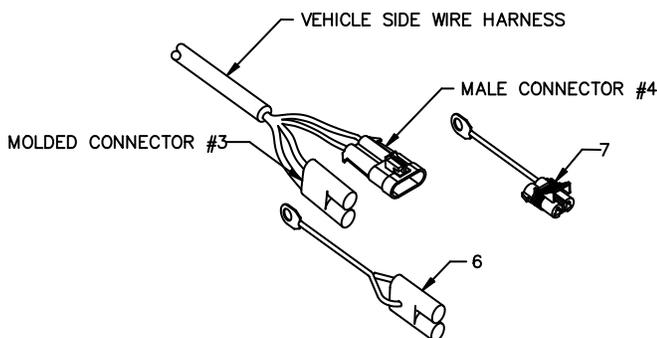

Figure1. Control Harness Mounting G10593
1. Refer to Figure 2 for vehicle side harness diagram. Begin at the rear of the vehicle. Secure the sealed connector (Connector # 3), male connector (Connector #4), molded dust cap (6), and female dust cap (7) near the center of the rear bumper using Cable Ties (MSC04088), refer to figure 1.